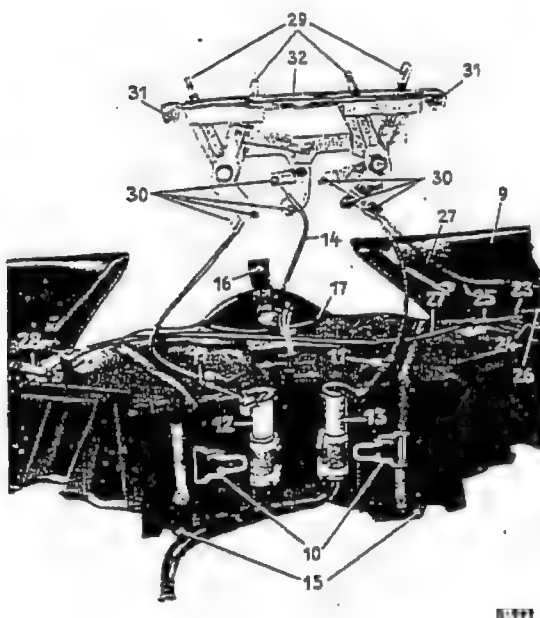

Fig. 83-1/2
4. Detach the wire cable (14) for the fresh-air flap (see Fig. 83-1/2).
5. Use a socket wrench to unscrew the two fixing screws (15) on the cowl and the fixing screw (16) on the water tank (see Fig. 83-1/2).
8. Detach the water hoses (18) from the return pipe (19) (see Fig. 83-1/3).